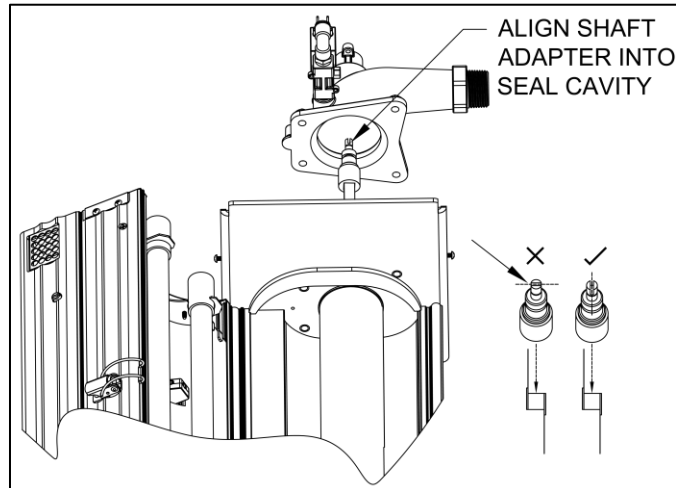

**Figure 7-7**
4. If the quartz sleeve is still not clean, it requires replacement. This is done by removing the bottom manifold (see Figure 7.7). Replacing a quartz sleeve is easier when the unit is placed on a horizontal surface – removing the unit from the wall to work on a bench is recommended, especially for the UV-H 1000 models.
9. Replace the bottom manifold (see Fig. 7.7) by installing the four nuts in an alternating pattern (top left, bottom right, bottom left, then top right). Check again for Teflon washer.